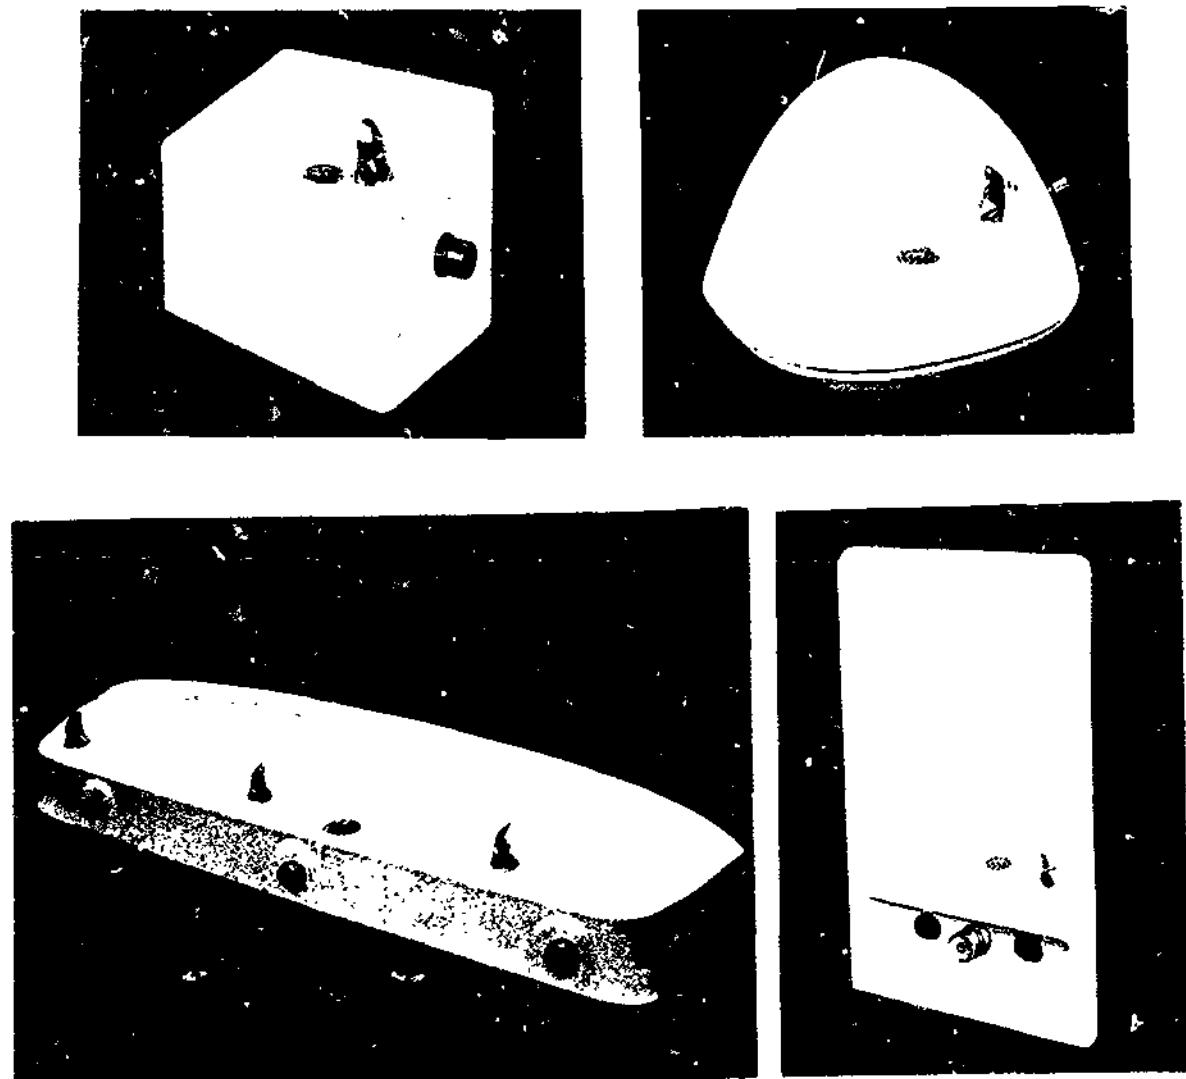

Figure 22-20. Various Fibreglass Drinking Fountains
c) Figure 22-20 shows some types of fibreglass drinking fountain.